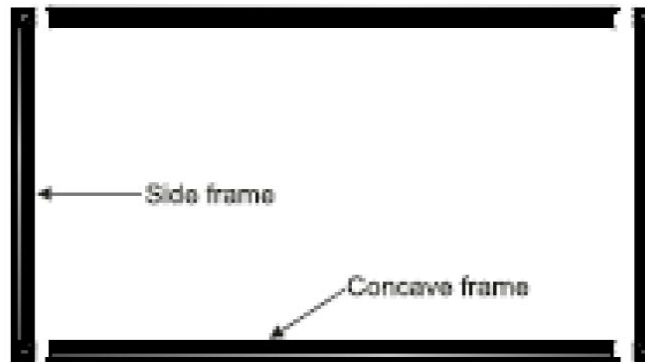

Figure 1
1. Locate top, bottom, and side frame pieces and lay them on a clean, flat surface (*Fig. 1*).